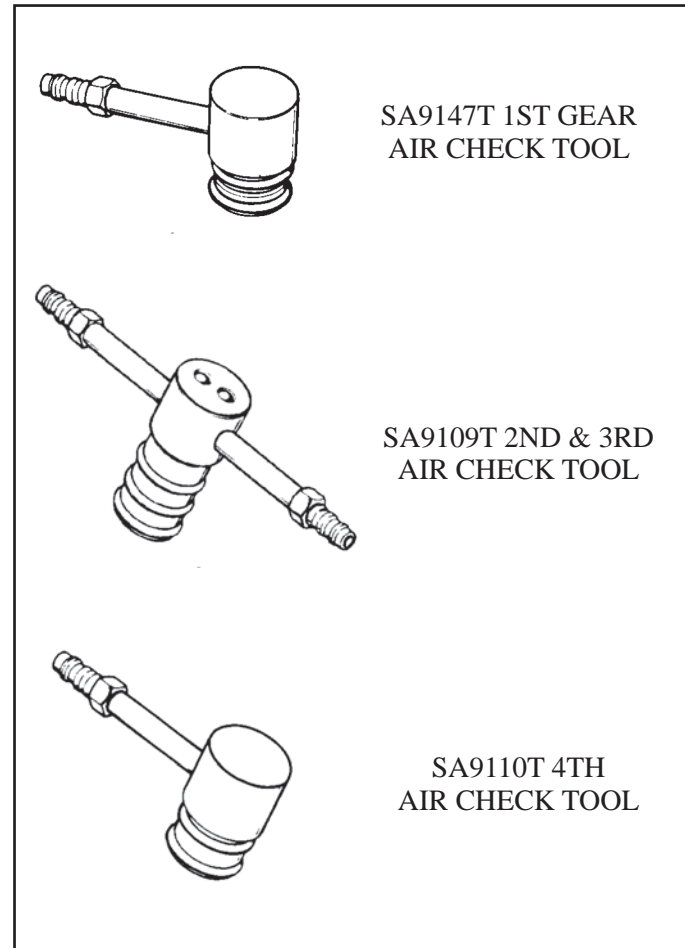

Figure 120
3. Install the appropriate air check fixture tool to the clutch housing (See Figure 120).